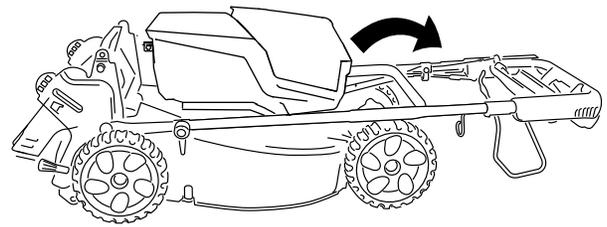

Figure 22
5. Rotate the upper portion of the handle back toward the motor; refer to Figure 22.